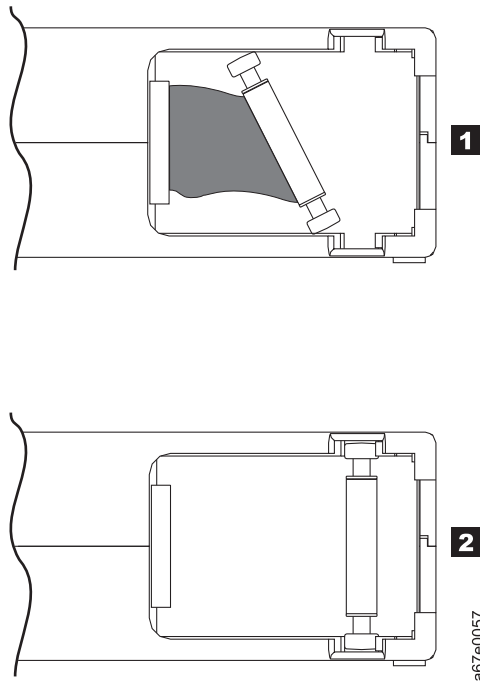

Figure 150. Leader pin in the incorrect and correct positions. The cartridge door is open and the leader pin is visible inside the cartridge.
- Check that the leader pin is properly seated (see **2** in Figure 150 on page 172).
- Do not drop the cartridge. If the cartridge drops, slide the cartridge door back and ensure that the leader pin is properly seated in the pin-retaining spring clips. See **2** in Figure 150 on page 172. If the leader pin becomes dislodged, go to “Repositioning or reattaching a leader pin” on page 171.
Improper placement of leader pin. See Figure 150 on page 172.
A leader pin that is improperly seated inside a cartridge interferes with the operation of the drive. Figure 150 on page 172 shows a leader pin in the incorrect **1** and correct **2** positions.